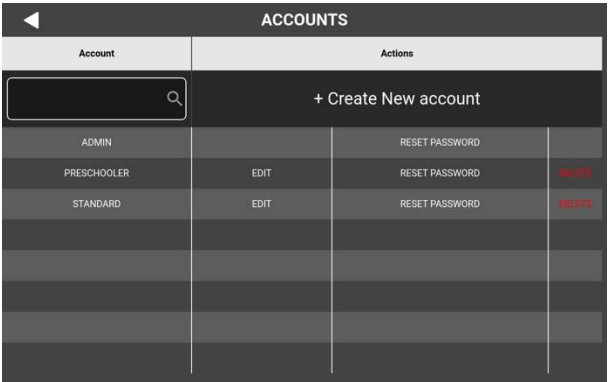

Figure 13 – Accounts panel
From the *Settings* panel (Figure 11), select *Accounts* to open the *Accounts* panel (Figure 13), where you can create, modify, or remove user profiles.
1. From the *Accounts* panel (Figure 13), select the *Delete* button next to the username of the account you wish to remove.
1. From the *Accounts* panel (Figure 13), select the *Reset password* button next to the relevant account (including *Admin*) to be modified.
From the *Accounts* panel (Figure 13), select the *Edit* button next to the relevant account to modify the following account settings: